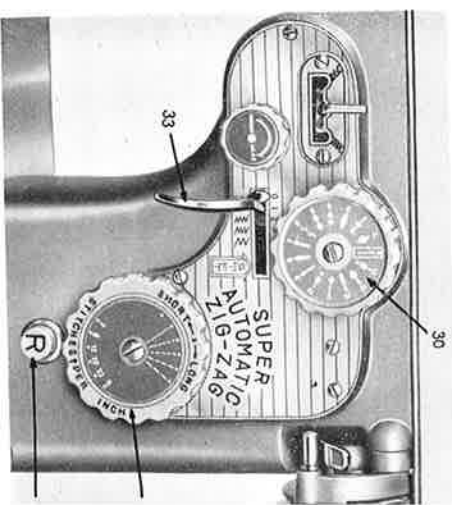

Fig. 17
3. Make sure that zigzag lever "33" (Fig. 17) is set to left at marking "0" on the dial plate, and that the Pattern Selector "30" (Fig. 17) is set so that marking "0" is on of dial.
The length of stitch is adjusted by turning the stitch length regulator "7" (Fig. 17). When same is turned to such a position that the arrow at its outer ring points at dial marking "0", the material is not being fed through the machine. To increase the length of stitch turn the regulator clockwise until the arrow points at the desired number of stitches per inch. At the upper part of the dial are represented the actual stitch lengths corresponding to the setting of the regulator.